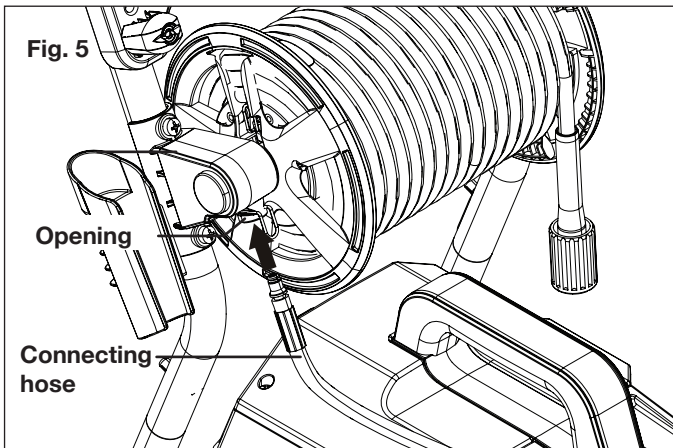

Fig. 5
5. Insert the connecting hose into the opening on the hose reel, as shown, until it clicks securely in place (Fig. 5).